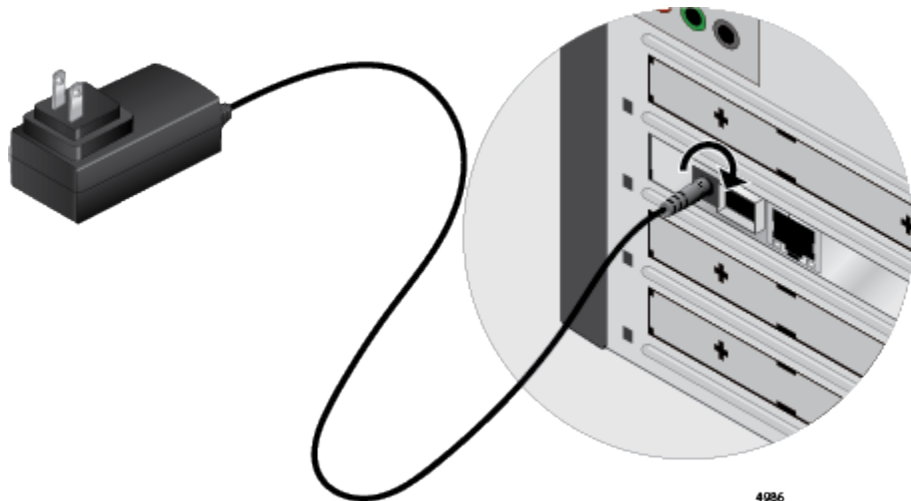

Figure 16. Connecting Power Cord to the Network Adapter
2. Insert the AT-2914GP-PSU power cord connector to the front panel of the AT-2914GP/SP network adapter and turn the connector clockwise. See Figure 16.